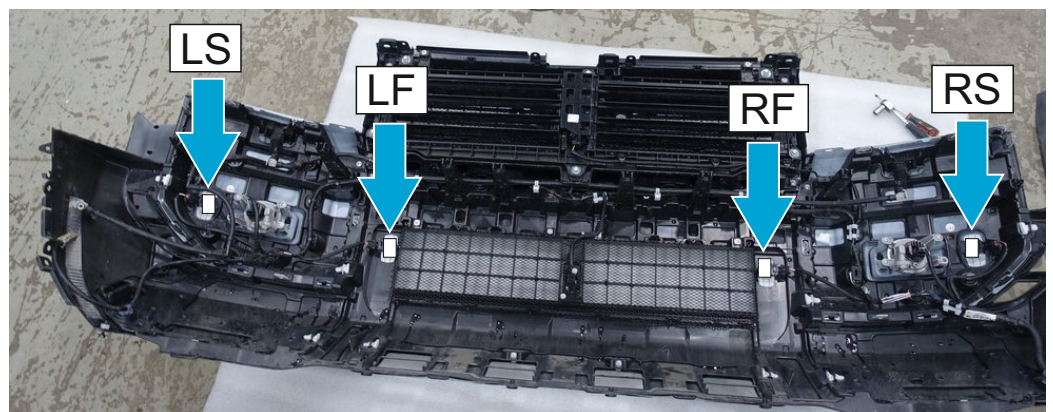

Fig.24
23. Mark the parking sensors and wires as shown (Fig. 24). Then disconnect it from the wires and remove from the bumper.